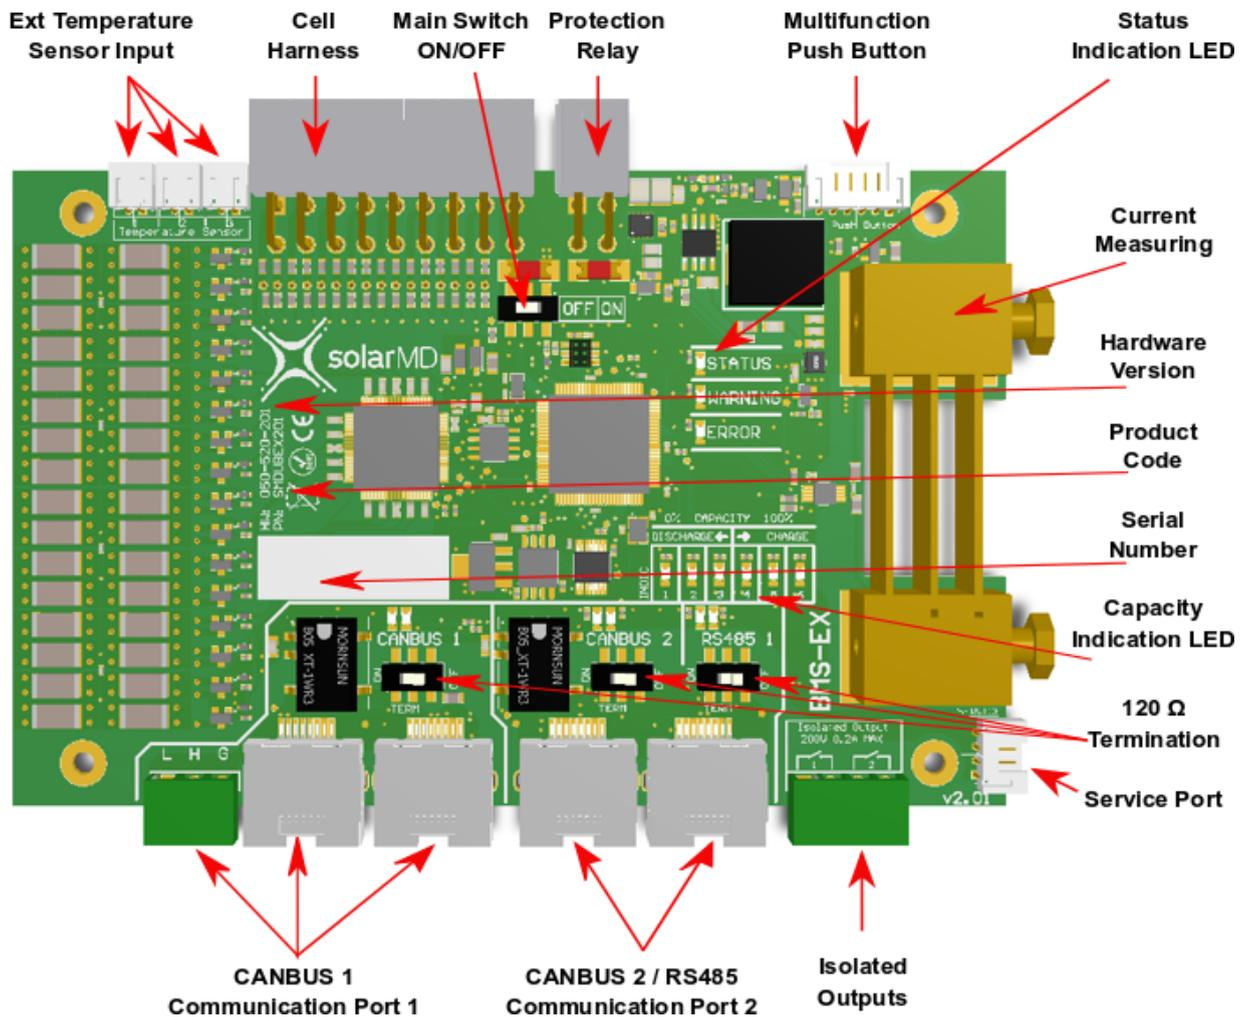

Figure 4: BMS board component locations
Step 1. Before connecting anything be sure that the battery ON/OFF switch is at OFF position. (figure 4)
Step 3. Turn the BMS board ON/OFF switch to the ON position (figure 4).
Step 4. Connect Multipurpose button if not connected to the BMS board connector (figure 4).